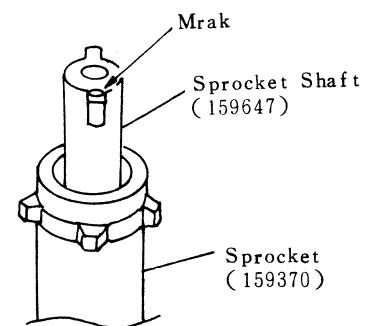

Fig 29
- b) Insert the Sprocket Shaft (159647) to the Sprocket (159370) in the position as shown (Fig 29) and set in into the camera body while mark of Sprocket Shaft is face of film rail plane. Insert the Sprocket Spring (139650) on the Sprocket Shaft.